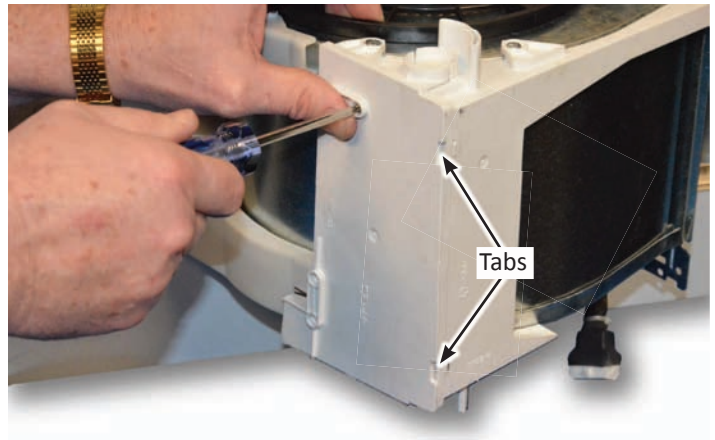

Figure 5
8. Remove (2) T10 Torx screws and disengage (2) tabs that secure the wiring harness cover, see figure 5.